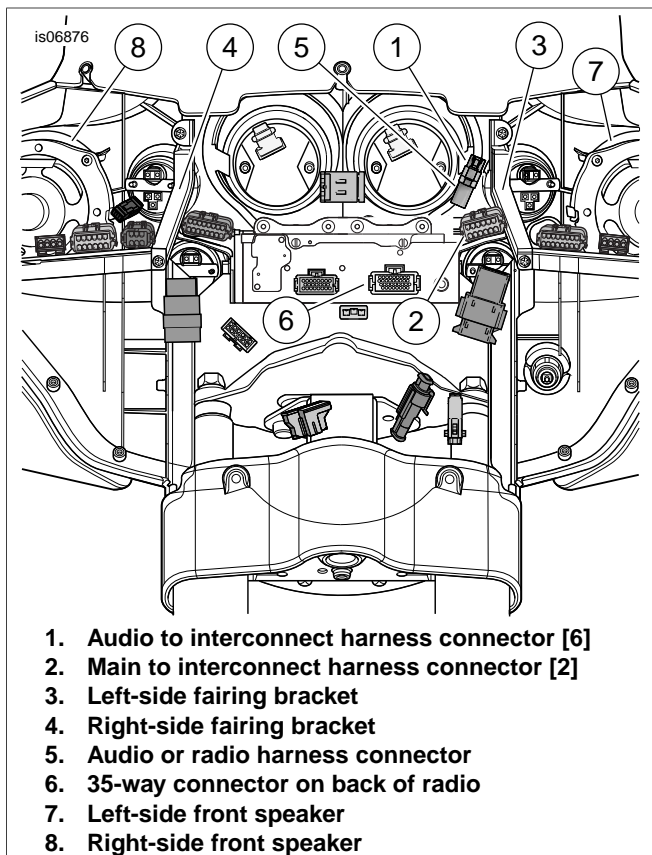

Figure 1. Inner Fairing Connectors (FLHX, FLHT/C/U)
- See Figure 1. Make note of the location of the black six-way Deutsch audio to interconnect harness connector [6]
If the black six-way Deutsch audio to interconnect harness socket housing [6B] (Figure 1, Item 1) on the vehicle **is connected** to an audio harness (5), unplug the connector halves and proceed to the **Amplifier Harness Routing and Connection** section.
- Plug the 35-way connector (13) of the radio wire harness (12) into the receptacle on the back of the radio (see Figure 1, Item 6). Listen for a definite "click".
- Route the shorter branch of the radio wire harness (with a six-way pin housing and yellow/orange and yellow/violet wires), over to the area of socket housing [6B] (1), but **do not** connect at this time. This pin housing (14) will now be known as connector [6A].
1. Remove the secondary locking wedge from socket housing [6B] (Figure 1, Item 1) on the vehicle per service manual instructions. Remove the plugs from cavities 4 and 5.